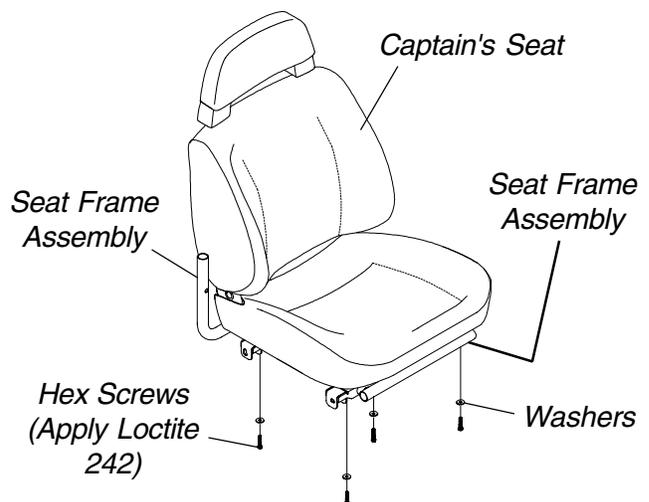

FIGURE 8 - REPLACING CAPTAIN'S SEAT
5. Position the mounting holes in the two (2) new seat positioning strap halves with the mounting holes in the seat frame assembly.
6. Reinstall the two (2) hex bolts, washers and locknuts that secure the seat positioning strap to the seat frame assembly and tighten securely.
**REPLACING CAPTAIN'S SEAT (FIGURE 8)**
2. Remove the four (4) hex screws and washers that secure existing captain's seat to the seat frame assembly.
5. Install the four (4) hex screws and washers through the seat frame assembly and into the new captain's seat. Tighten securely.